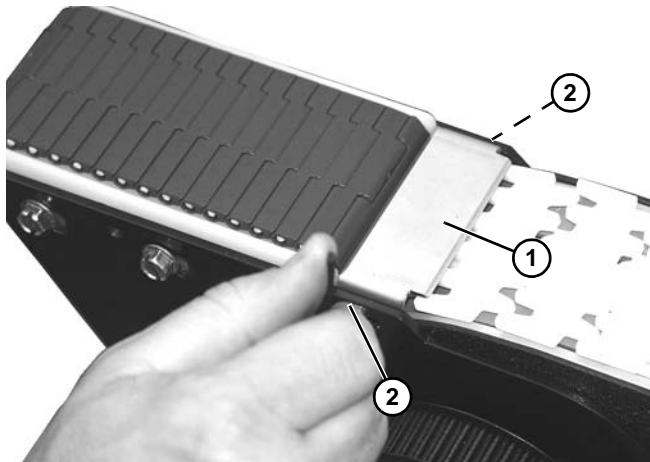

Figure 122
7. Install tensioner plate (Figure 122, item 1) with two socket head screws (Figure 122, item 2).